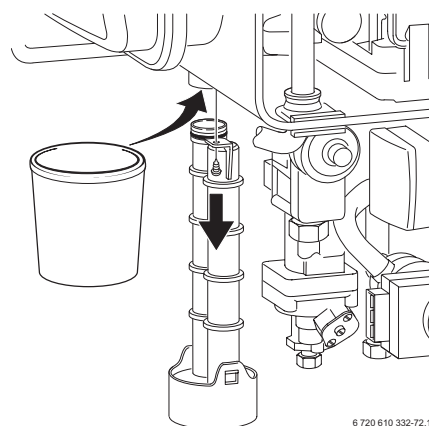

Fig. 51
- ▶ Unscrew condensation trap and place suitable container underneath. Refer to fig. 51.
In order to prevent spillage of condensate, the condensation trap should be completely removed, (see page 35, fig. 51).